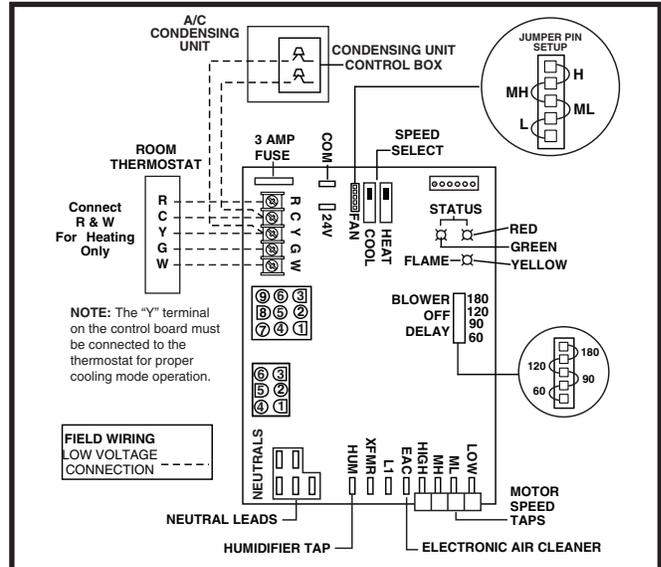
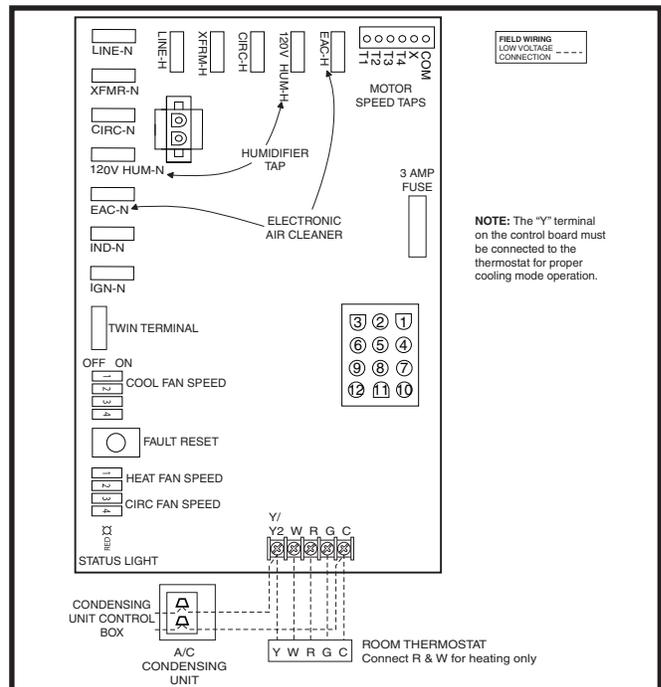

Figure 25. Nordyne/UTEC Low Voltage Field, Four-wire Heating/Cooling Applications
Figure 26. Emerson Low Voltage Field, Four-wire Heating/Cooling Applications
- The thermostat must be installed according to the instructions supplied by the thermostat manufacturer. Low voltage connections (24 VAC) from the thermostat are wired to the terminal strip on the integrated control in the furnace. **Figure 25** contains the proper connections for heating only (two-wire) and heating/cooling (four-wire) applications. Recommended minimum wire gauge for thermostat wiring is shown in **Table 5 (page 23)**.
- √ Verify the jumper on the Nordyne/UTEC board or dipswitch on the Emerson board (for fan speed) on the control board. See Figure 25 \(page 24\) and Figure 26 \(page 24\).